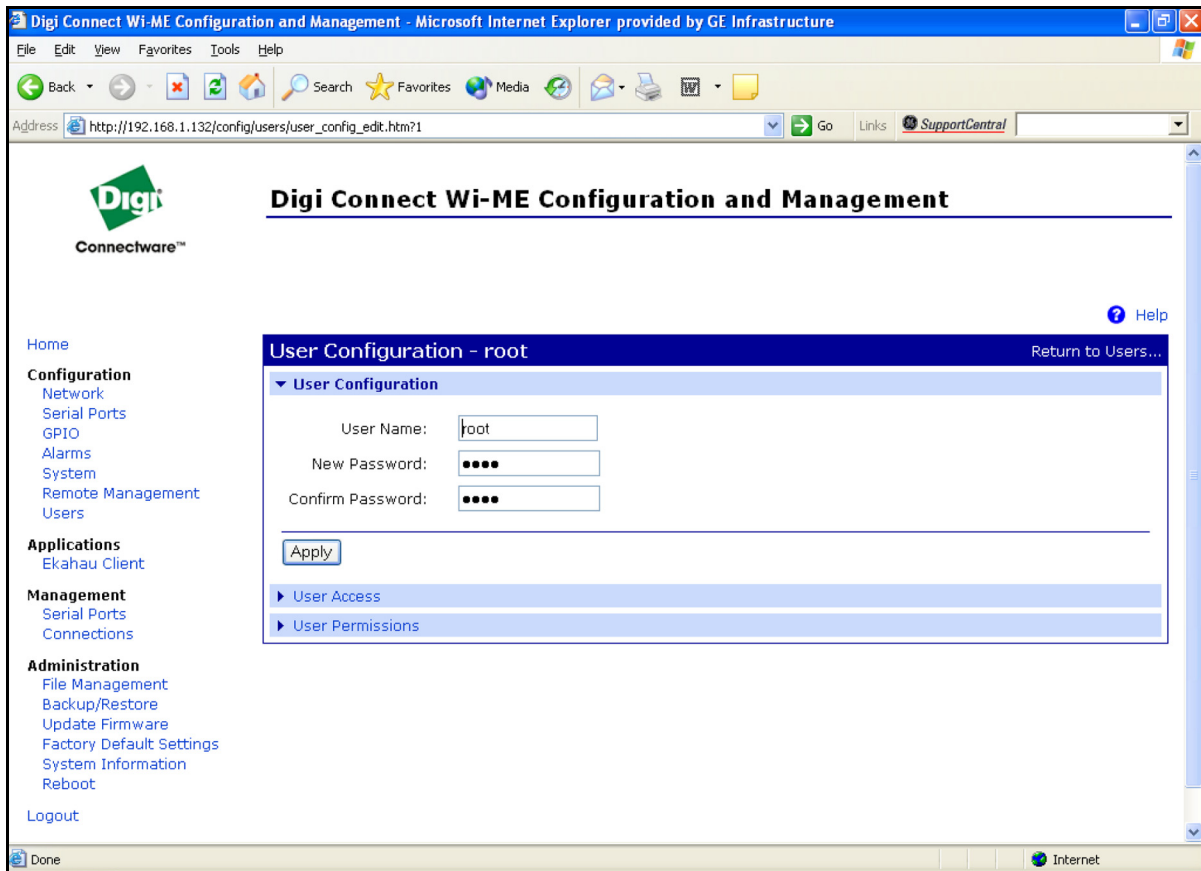

Figure 45: Changing the User Name and/or Password
5. Click on **New....** Figure 45 on page 63 appears.